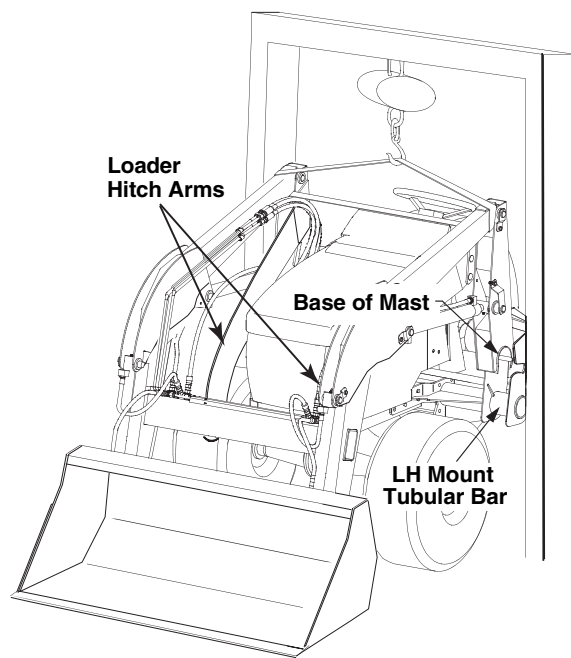

Figure 7
- Using the overhead lift apparatus, raise the loader so that the bottoms of the masts are high enough to clear the front axle/tire of the tractor and the tubular bars of the RH and LH loader mounts. Refer to Figure 7.